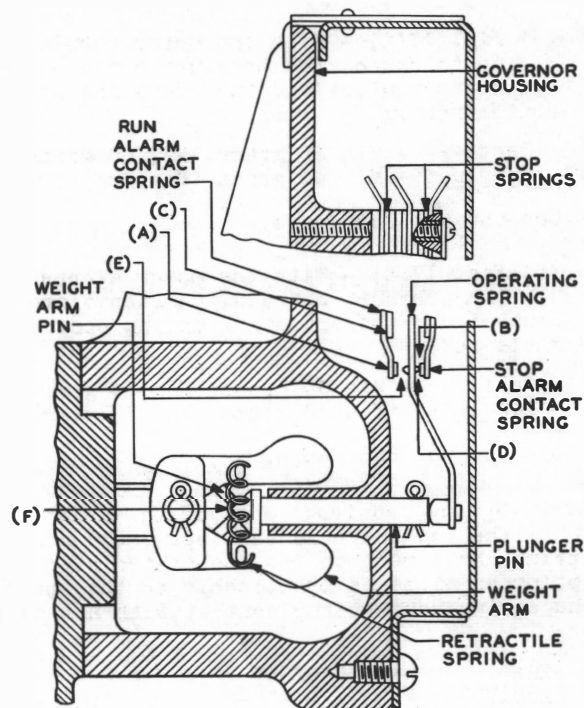

Fig. 16 - Cast Weight-type Alarm Mechanism
(a) Fig. 16(A) - With the motor running up to speed, the pressure between the run alarm contact and the operating spring contact shall be
(b) Fig. 16(B) - With the motor stopped, the pressure between the stop alarm contact and the operating spring contact shall be
2.21 Spring Tension: Fig. 16(C) - With the run alarm contact open, the contact spring shall rest on its associated stop spring as close as practicable to the end of
2.22 Contact Follow: Fig. 16(D) - With the motor stopped and with the end play of the motor worm taken up toward the motor coupling, there shall be a follow of the stop alarm contact of 0.005 inch.
(a) Fig. 16(E) - With the motor running up to speed, the separation between the stop alarm contact and the operating spring shall be 0.010 inch.
2.24 Plunger Pin Pressure: Fig. 16(F) -